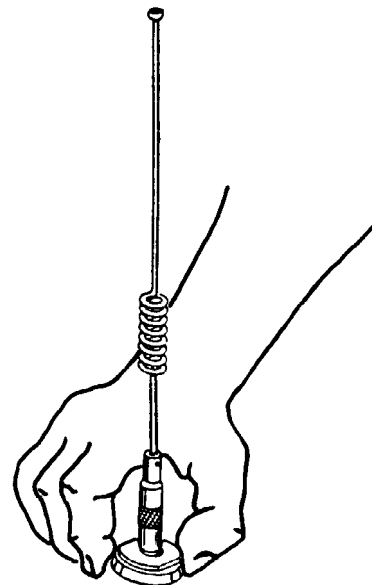

Figure 9.
8. Refet to Figure 9. Slide the metal cap (coupling nut) over the antenna rod assembly until it is in place over the plastic insulator of the whip assembly. Put the whip assembly in place over the locking nut and secure the metal cap to the external threads of the locking nut. With the antenna rod in a perfectly vertical position, tighten the metal cap by hand as tight as possible. Then, with 10" adjustable wrench or a 1" open end wrench, tighten no more than an additional 1/2-turn.